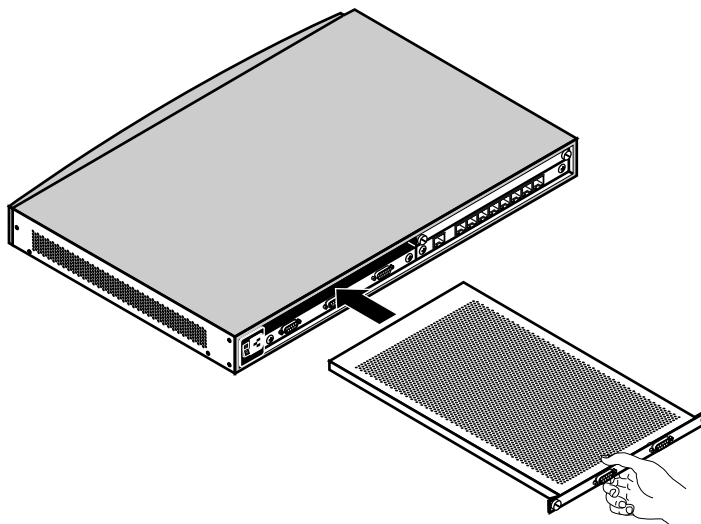

Figure 2-1. Inserting an expansion card into a MAX slot
- 2 Hold the expansion card with the network ports facing you and insert the card into a back panel slot as shown in Figure 2-1. Make sure you insert the card into the guides within the same plane.